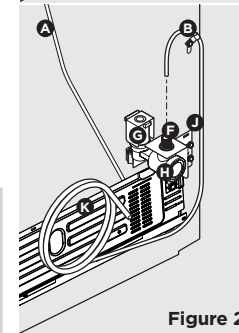

Figure 2
5. **If you use braided flexible stainless steel tubing**, the nut is already assembled on the tubing. Slide nut onto valve inlet and finger tighten nut onto valve. Tighten another 1/2 turn with a wrench; **DO NOT** overtighten. See Figure 2.